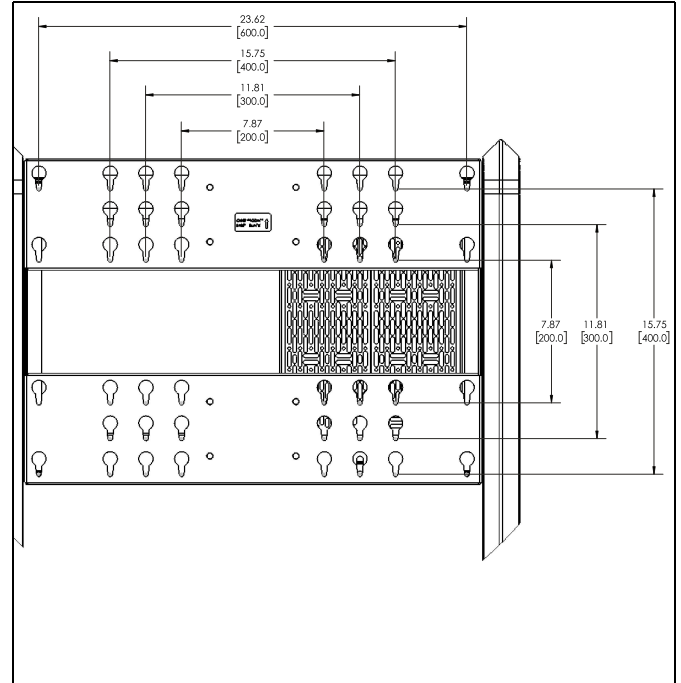

Figure 10
2. Determine which holes will be used to mount display to cart. (See Figure 10)